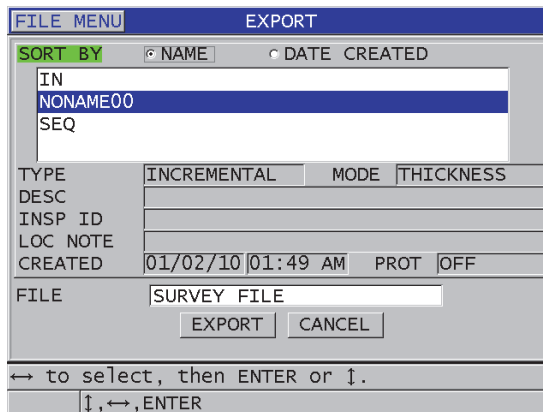

Figure 14-8 The EXPORT screen
5. In the **EXPORT** screen (see Figure 14-8 on page 273):